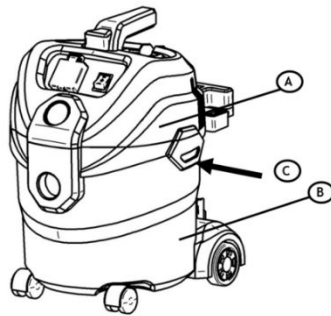

Figure 2.2
4. See Figure 2.2. Remove vacuum head (A) from tank (B) by pulling gently on the lower part of the clamps (C) on the vacuum head.